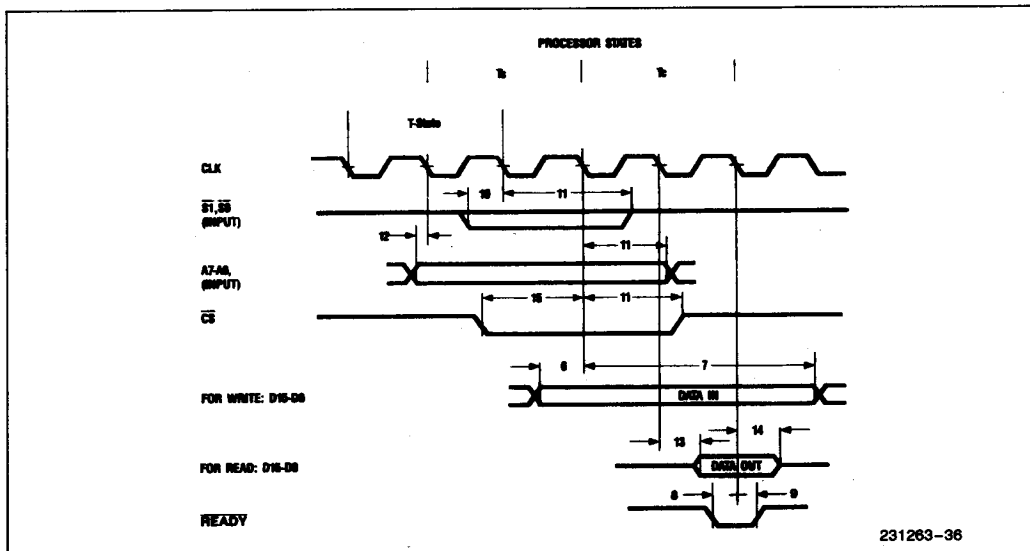

Figure 37. Timing of a Synchronous Access to the 82258 (286 Mode)
- Figure 37 was updated. The new timing diagram now illustrates the READY# signal during a synchronous access to the 82258.